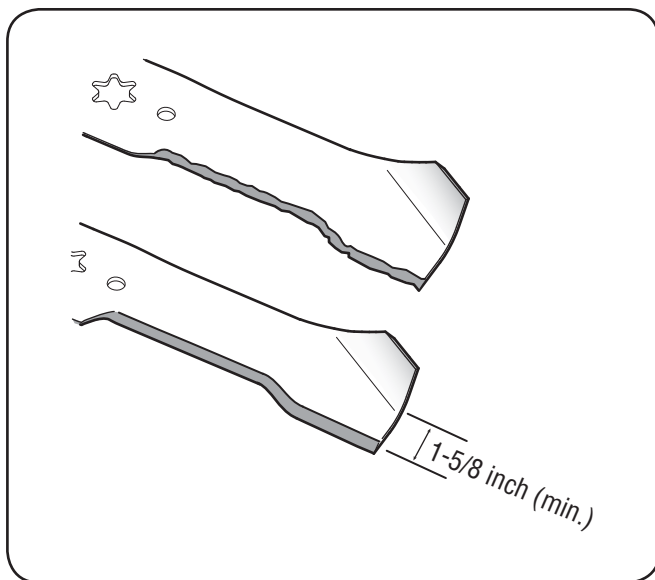

Figure 7-7
4. To properly sharpen the cutting blades, remove equal amounts of metal from both ends of the blades along the cutting edges, parallel to the trailing edge, at a 25° to 30° angle. Always grind each cutting blade edge equally to maintain proper blade balance. See Fig. 7-7.